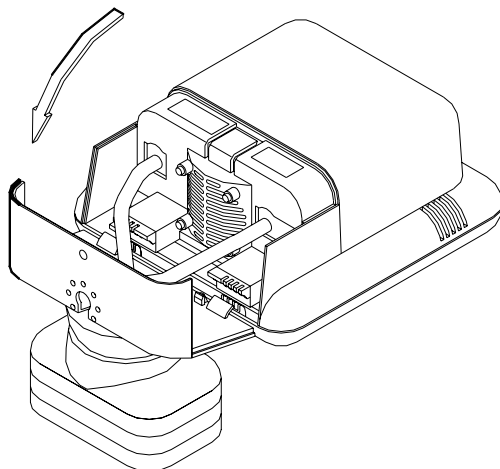

Figure 2.8
6. Place the scanner onto the universal stand and rotate the scanner as shown in figure 2.8. Make sure that the connectors and cables are placed as indicated in the figures, such to allow easy attachment of the scanner to the back cover. Press the scanner until a “click” is heard.